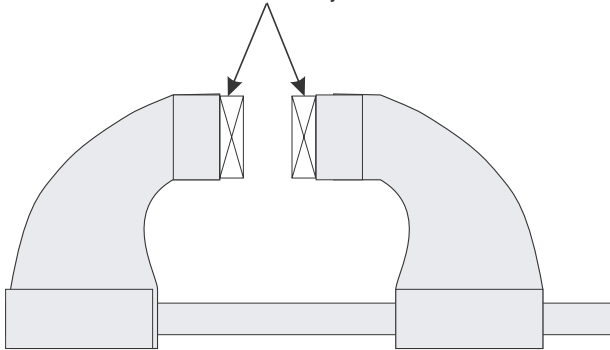

Figure 8-8. Pad the vise jaws to protect the End Cap threads.
1. Before securing the Tail Assembly for disassembly, protect the threads of the End Cap (16) by padding the vise jaws or wrapping the threads with a heavy cloth or canvas.
- a. If a vise is used, install the jaw pads. If jaw pads are not available, tape or bind strips of wood to the vise jaws as shown in Figure 8-8.